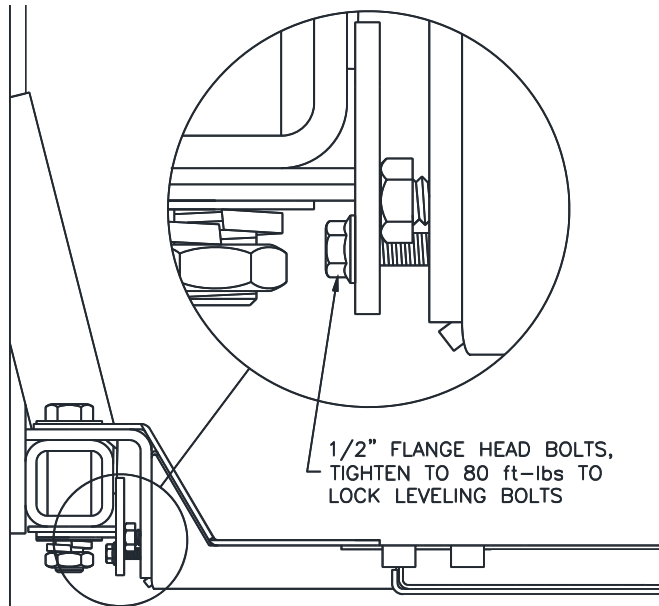

Fig. 5 LOCKING THE LEVELING BOLTS
- Once the Pad is level and both Leveling Bolts are tight against the Lower Clevis Plate Backer, **tighten the 1/2" Flange Head Bolts to approximately 80 ft.-lbs.** (2 per side), **Fig. 5**. This will lock the two 3/4" Leveling bolts.